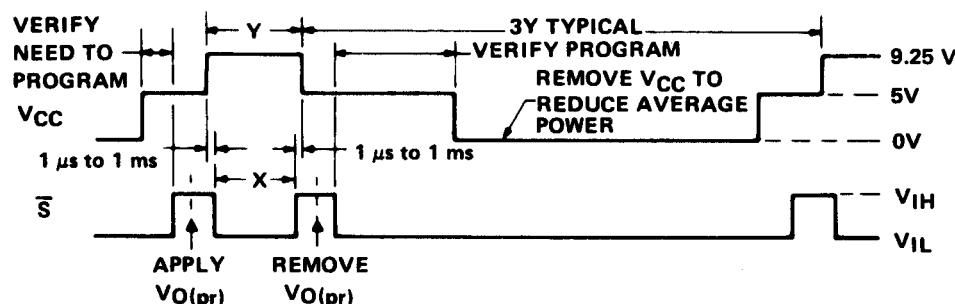

FIGURE 2 – VOLTAGE WAVEFORMS FOR PROGRAMMING
6. Apply a low-logic-level voltage to the chip-select input(s). This should occur between 1 μ s and 1 ms after V_{CC} has reached its 9.25 level. See programming sequence of Figure 2.